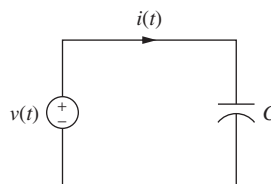

Figure P8.12 Current flowing through a capacitor.
- 8-12.** The current flowing through a capacitor shown in Fig. P8.12 is given by $i(t) = C \frac{dv(t)}{dt}$. If $C = 500 \mu\text{F}$ and $v(t) = 250 \sin(200 \pi t)$ V,
- 8-13.** Suppose the voltage applied in Fig. P8.12 is $v(t) = 10e^{-10t}[\sin(10t) - \cos(10t)]$ volts and the capacitance is $C = 500 \mu\text{F}$.
- 8-14.** The current flowing through the capacitor shown in Fig. P8.12 is given by $i(t) = C \frac{dv(t)}{dt}$. If $C = 2 \mu\text{F}$ and $v(t) = t^2 e^{-10t}$ V,